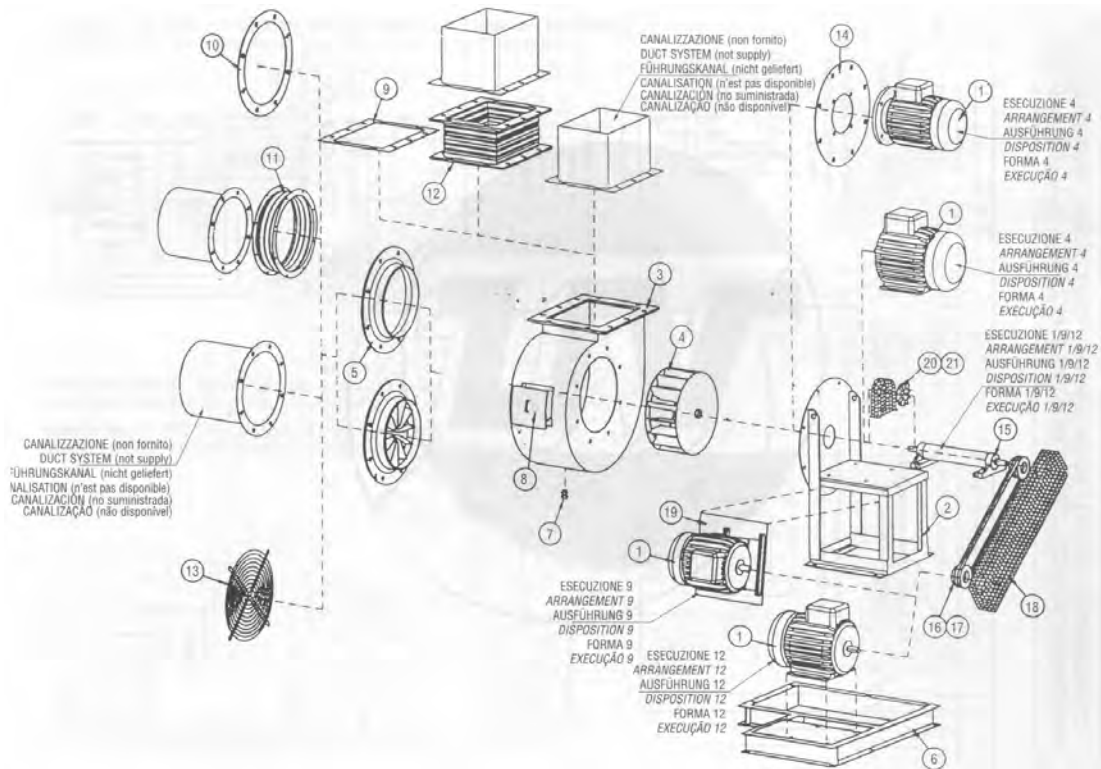

Figure 4.3 Exploded view
**NB: FOR ASSEMBLY OF FANS IN ALL ARRANGEMENTS, REFER TO THE EXPLODED VIEW IN FIGURE 4.3.**